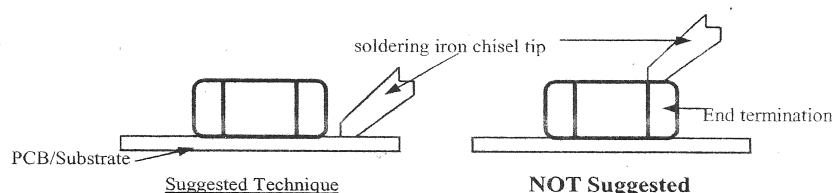

Figure 2
(F) Assuring the component is lying flat on the PCB/Substrate, place the soldering iron tip adjacent to the termination-land interface (See Figure 2). The soldering iron tip temperature should be controlled not to exceed 315°C. (600°F). When the solder starts to flow slowly move the tip of the soldering iron towards the component. Add any additional solder needed to generate a solder fillet. As the solder re-flows onto the component termination, remove the soldering iron from the PCB/Substrate entirely.